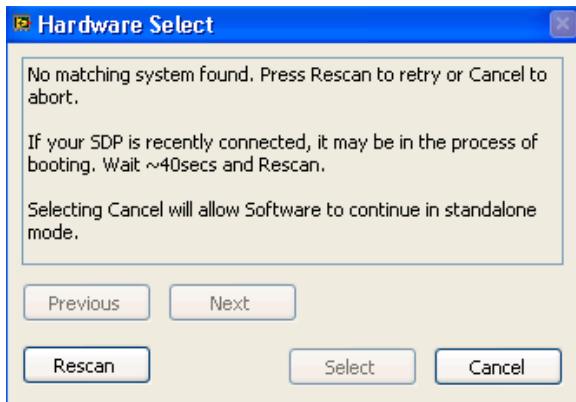

Figure 17. No Hardware Connected Pop-Up Window Error
2. The software automatically seeks to find the hardware connected; therefore, when no hardware is connected, it will pop up with a connectivity error (see Figure 17). If user wishes to continue without hardware in standalone mode, click **Cancel**.